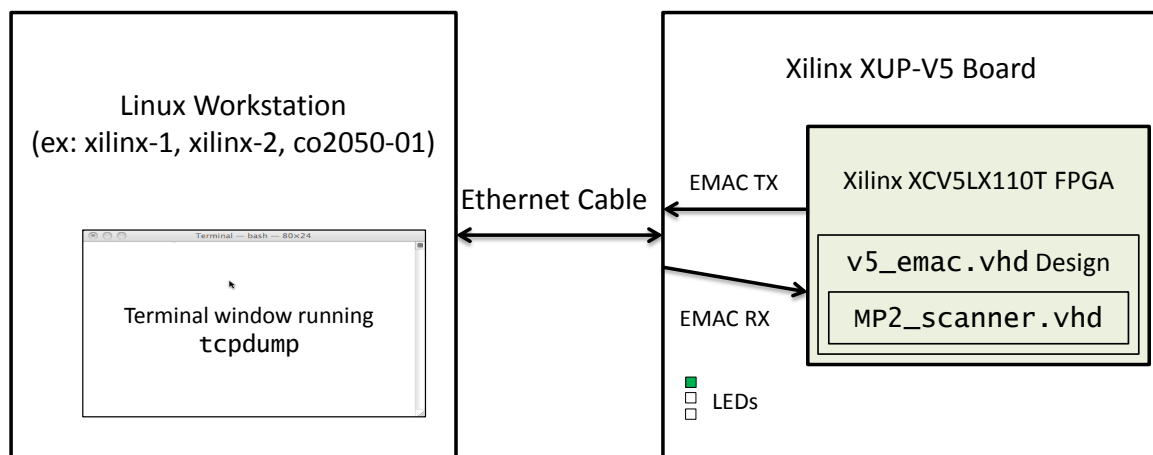

Figure 1: MP-2 Hardware Setup
1) Platform Overview. Figure 1 shows the high-level structure of the MP-2 hardware setup. Similar to MP-1, for this first part, you will first generate a hardware configuration (bitfile) for the FPGA using the existing VHDL source, and then will download that bitfile to the FPGA. You will then test that the initial design works before making modifications in subsequent sections. Keep in mind that although the setup appears similar at first glance to MP-1, the interface we are using (UDP over Ethernet) is significantly more advanced than Serial UART. This extra complexity is something we will be exploring in MP-2.